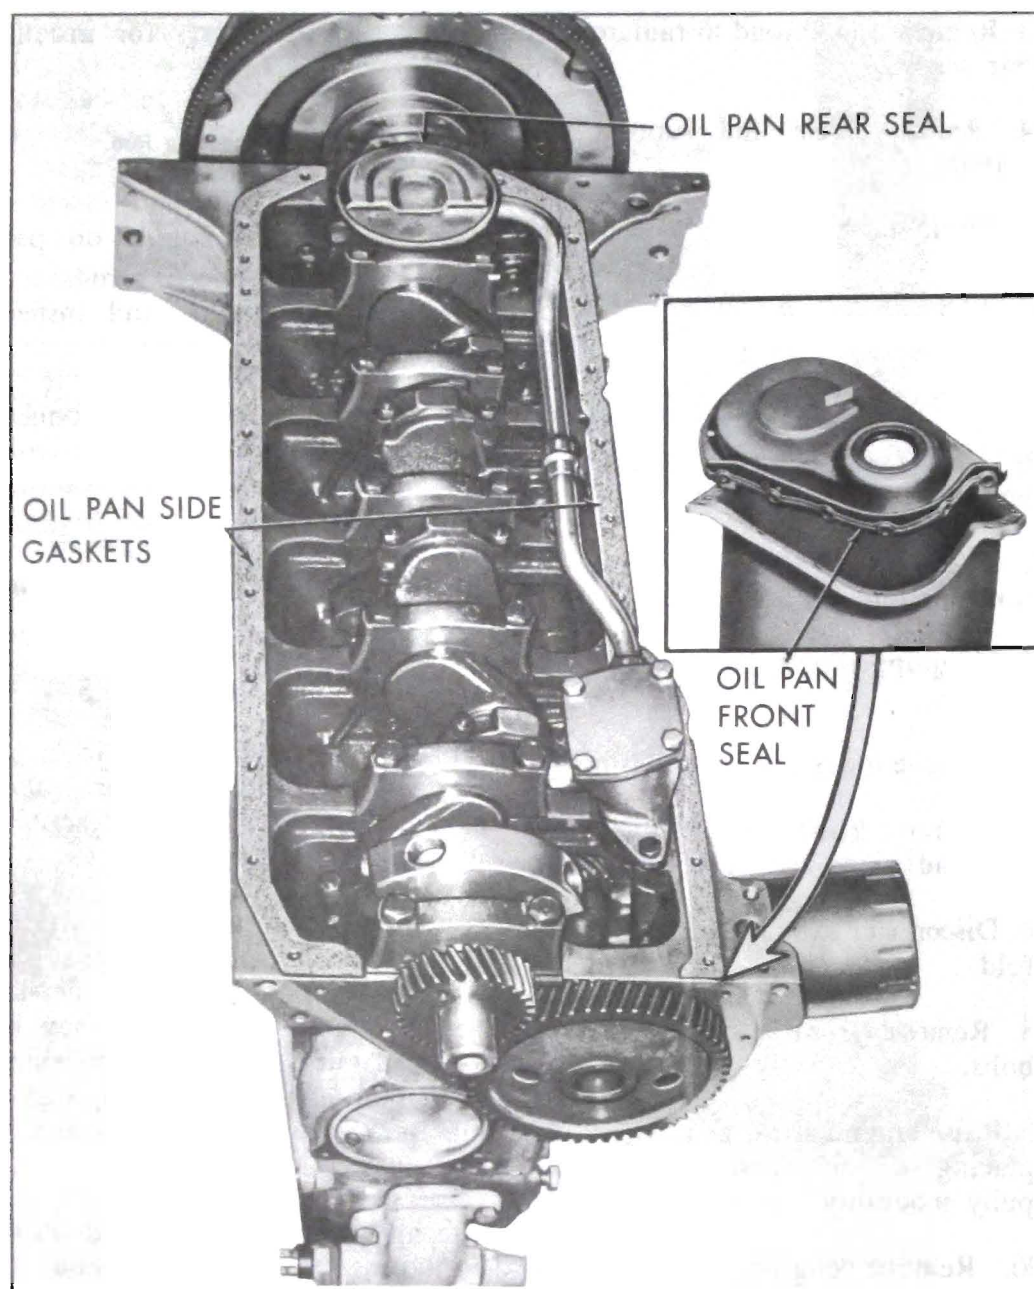

Figure 60-117 Pan Gasket and Seals
3. Apply non-hardening permatex to a few spots on the new pan gasket and install on block. *Make sure the new seal and gaskets are properly fitted. See Figure 60-117.*
2. Place a piece of Plastigage lengthwise along the bottom center of the lower bearing shell (Figure 60-117, View A). Install cap with shell and tighten bolt nuts to 35 lb. ft. torque.
5. Using the scale printed on the Plastigage envelope, measure the flattened Plastigage at its widest point. The number within the graduation which most closely corresponds to the width of Plastigage indicates the bearing clearance in thousandths of an inch. See Figure 60-117, View B.